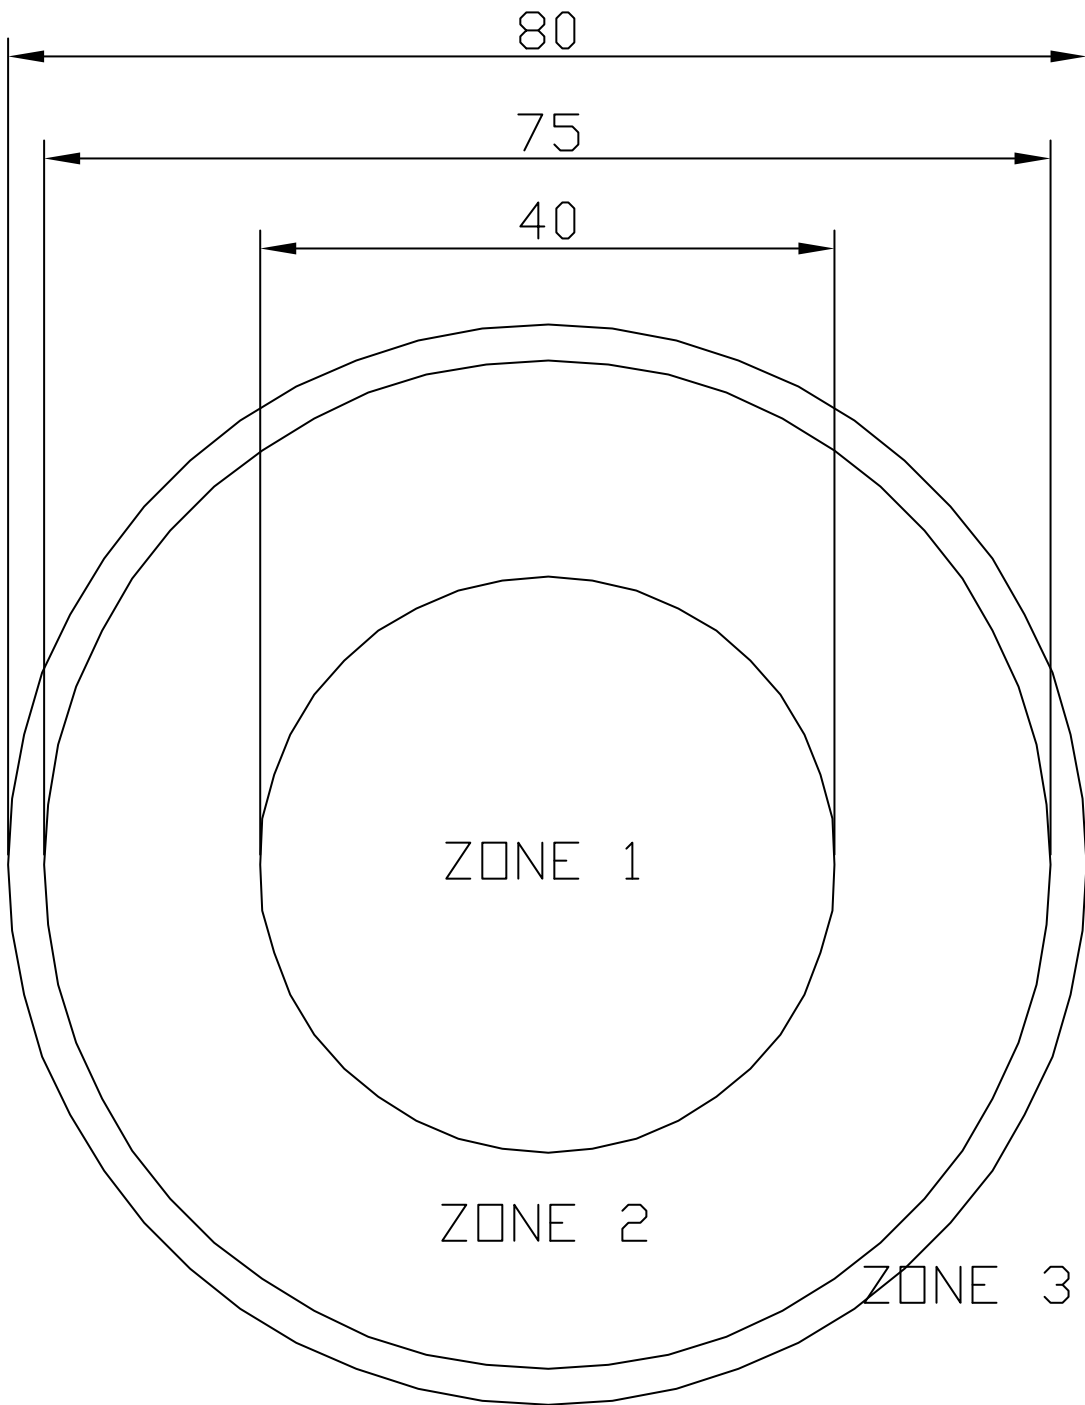

FIGURE 1
**9.ZONE DEFINATION:** The different zones of inspections of concave surface are defined in the **figure 1**.